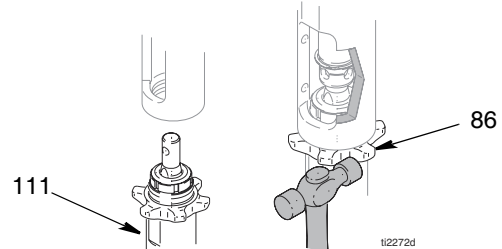

FIG. 10
- 1 (Fig 10) Screw jam nut (86) to bottom of pump (111) threads. Screw pump (111) completely into manifold. Unscrew pump (111) from manifold until pump outlet aligns with hose. Hand tighten jam nut (86), then tap 1/8 to 1/4 turn with hammer or torque to 75 ft-lb (101 N-m).